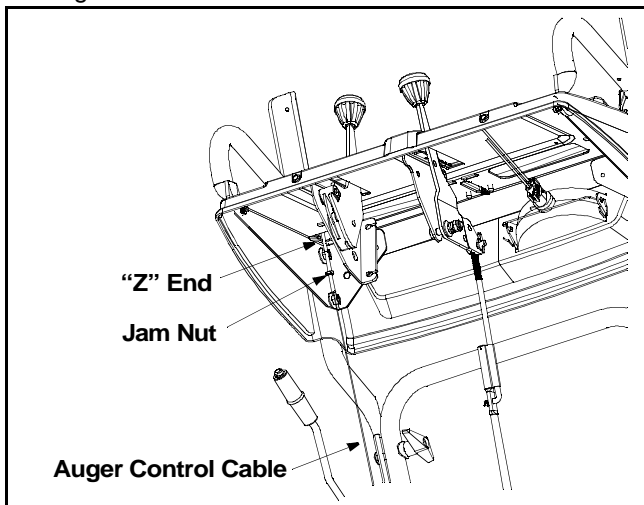

Figure 5
- Loosen the jam nut and thread the cable in (for less slack) or out (for more slack) as necessary. See Figure 5.